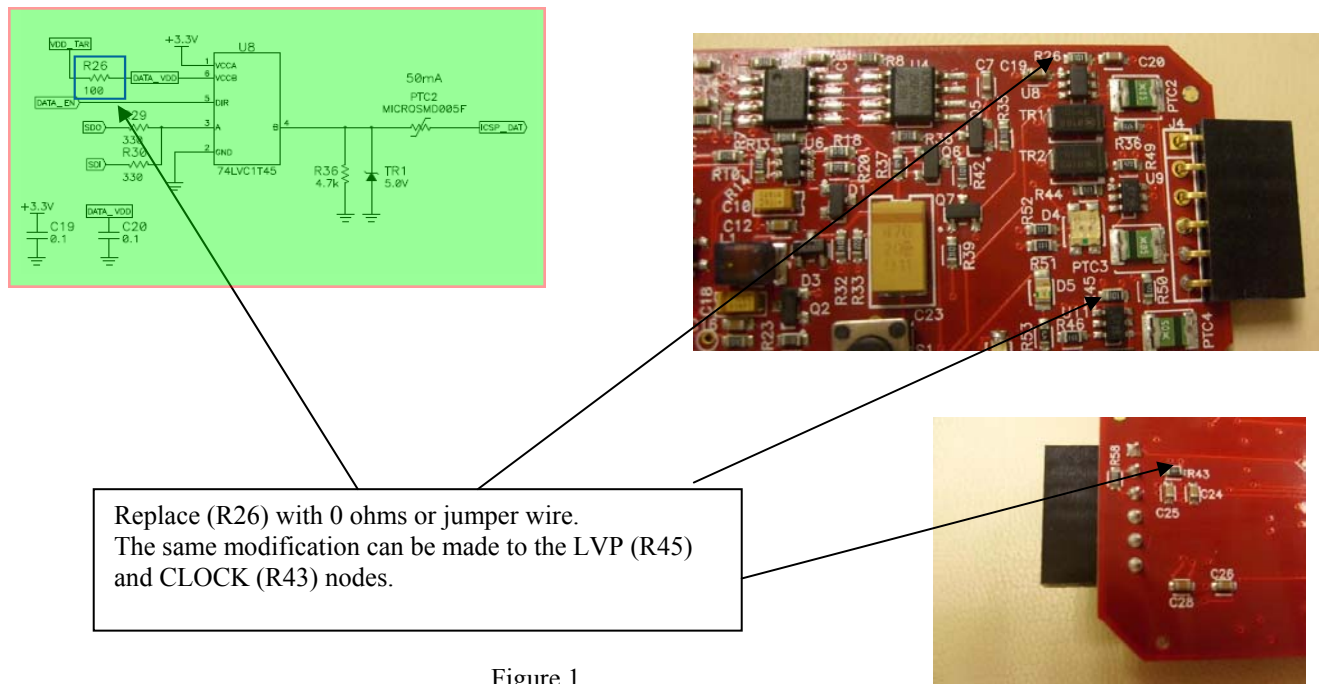

Figure 1
**Solution:** There are several workarounds. One solution is to simply use external target power where the voltage regulation of the external power supply is 1% or better of the desired level and ensure the current supplied is at least 50ma. Another solution is to simply increase the voltage in MPLAB IDE to compensate for the voltage drop across the resistor. The last and more permanent solution is to change the resistors (R26, R43, and R45) in the CLOCK, DATA, and LVP buffer path from 100 ohms to 0 ohms so the voltage drop is eliminated. See figure 1 for rework details.